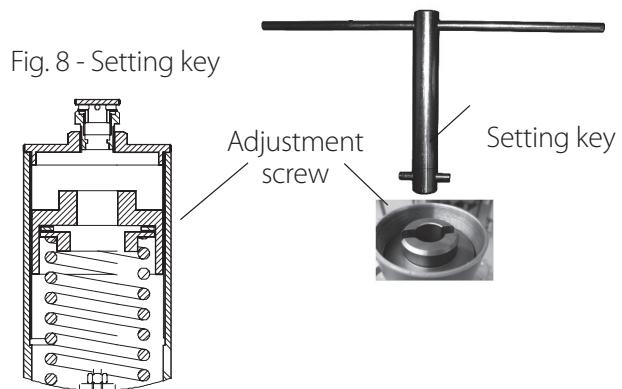

Fig. 8 - silencer assembly (detail)
- To increase the set pressure: rotate the adjustment screw clockwise using the adjustment wrench - see Fig 8.